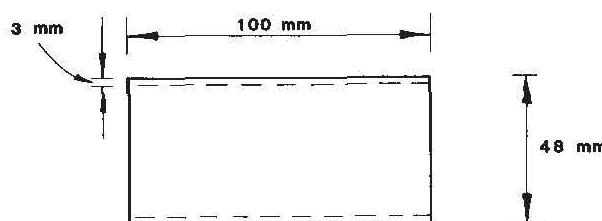

FIG. 2
- (1) A 100mm length of suitable tubing having an outside diameter of 48mm, and a wall thickness no less than 3mm, (or Imperial equivalents), see Fig. 2.